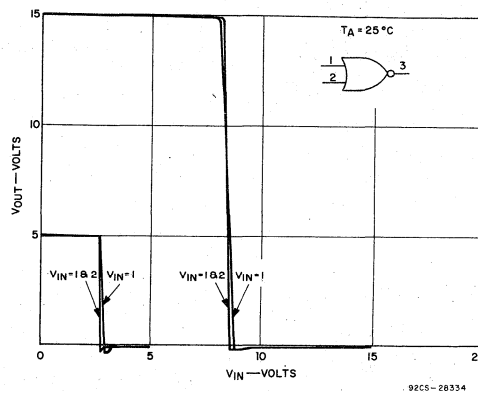

Fig. 5 — Voltage transfer characteristics of a buffered 2-input NOR gate (CD4001B).
**—Buffered—**The buffered 2-input NOR gate voltage-transfer characteristics, Fig. 5, are squared because of the gain of three CMOS stages from input to output. Fig. 5 shows that noise voltage inputs of  $\pm 1.5$  V at  $V_{DD} = 5$  V and  $\pm 4$  V at  $V_{DD} = 15$  V will have little discernible
**—Unbuffered—**Fig. 6 shows the rounded voltage-transfer characteristics of the 2-input unbuffered NOR gate. Also evident is the shift in the transfer curve for the different logic input states. Compare these curves to those of Fig. 5 and the effects of the non-buffered inputs as well as the gain differences are evident. The rounded characteristics require a noise-immunity specification of  $\pm 20\%$  of  $V_{DD}$  at 5, 10 and 15 V as well as a reduced noise margin: 0.5 V at  $V_{DD} = 5$  V and 1.0 V at  $V_{DD} = 15$  V.
**Noise Immunity**—Table III shows the detailed input-voltage data-sheet specifications for buffered and unbuffered gates. From these test conditions the user-oriented noise-immunity and noise-margin data of Table II are derived. Also refer to Figs. 5 and 6 for the voltage-transfer characteristics that illustrate the reason for the different input-voltage-specification requirements for buffered and unbuffered devices.